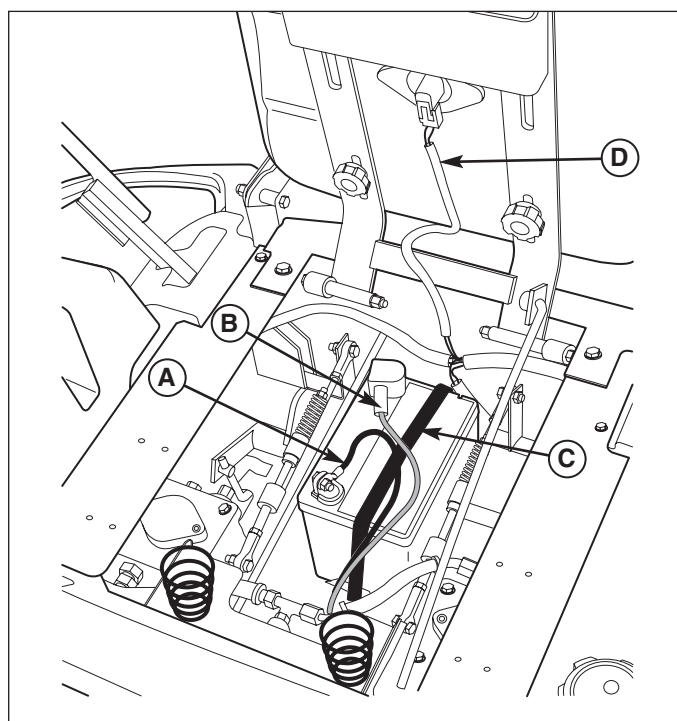

Figure 2. Battery
1. Install the battery in the battery compartment and secure using the rubber hold-down strap (C, Figure 2).
2. Connect the red positive battery cable (B) to the positive battery post.
3. Connect the black negative battery cable (A) to the negative battery post using a capscrew, washer, lock-washer and nut.
2. Connect the seat switch wire harness (D, Figure 2) to the seat switch.
Check that the seat switch wire harness (D, Figure 2) is connected to the seat switch.